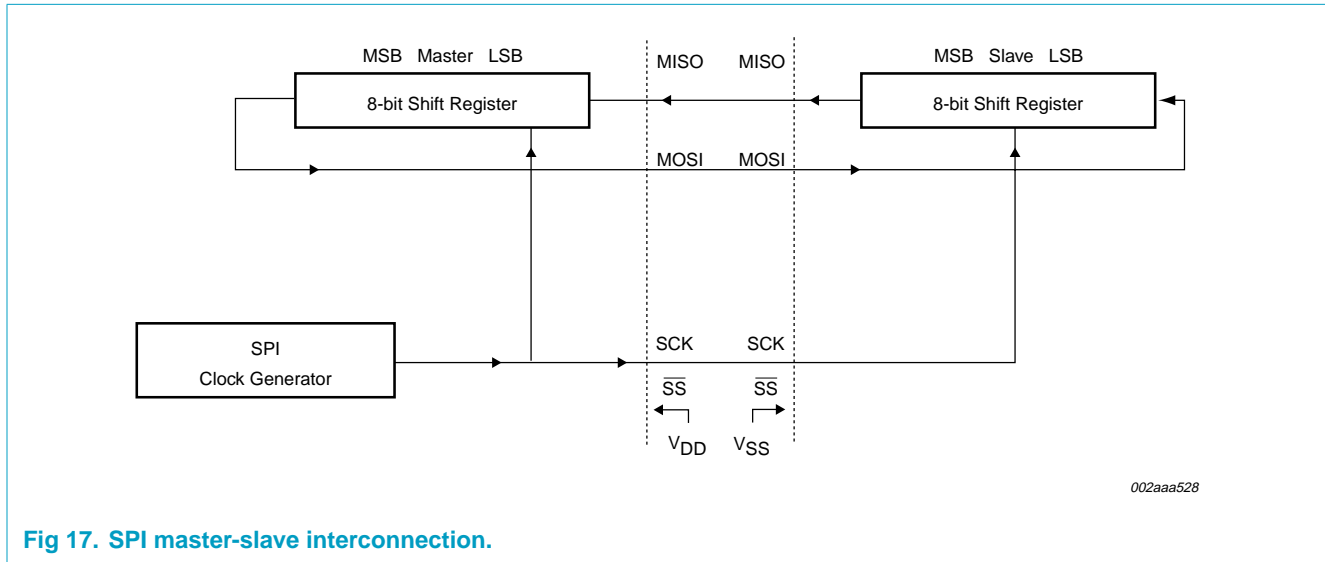

Fig 17. SPI master-slave interconnection.
The serial peripheral interface (SPI) allows high-speed synchronous data transfer between the P89V51RB2/RC2/RD2 and peripheral devices or between several P89V51RB2/RC2/RD2 devices. Figure 17 shows the correspondence between master and slave SPI devices. The SCK pin is the clock output and input for the master and slave modes, respectively. The SPI clock generator will start following a write to the master devices SPI data register. The written data is then shifted out of the MOSI pin on the master device into the MOSI pin of the slave device. Following a complete transmission of one byte of data, the SPI clock generator is stopped and the SPIF flag is set. An SPI interrupt request will be generated if the SPI Interrupt Enable bit (SPIE) and the Serial Port Interrupt Enable bit (ES) are both set.